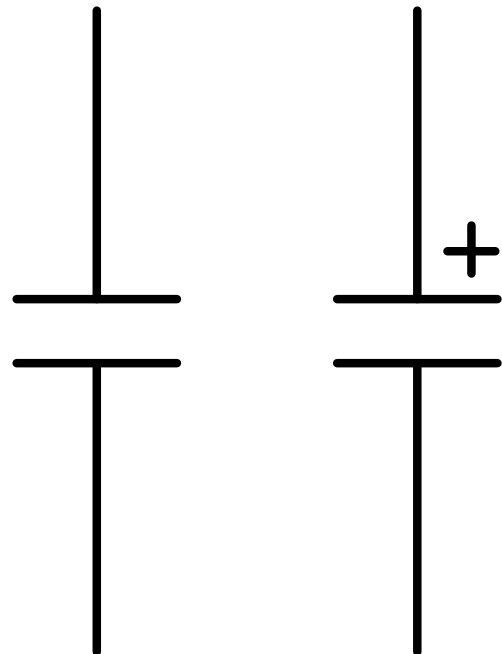

Figure 39: Capacitor Circuit Symbols
7. The circuit symbols for non-polarised and polarised capacitors is shown in Figure 39. It reflects the fact they are essentially made of two separate plates.